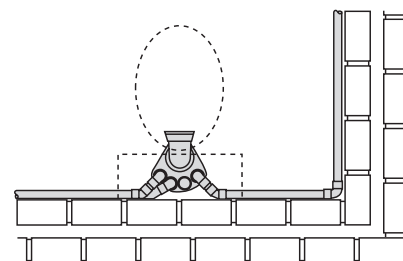

Fig.33d Internal soil stack connection (ground floor) plan
- internal ground floor connection to soil pipe (Fig.33d)